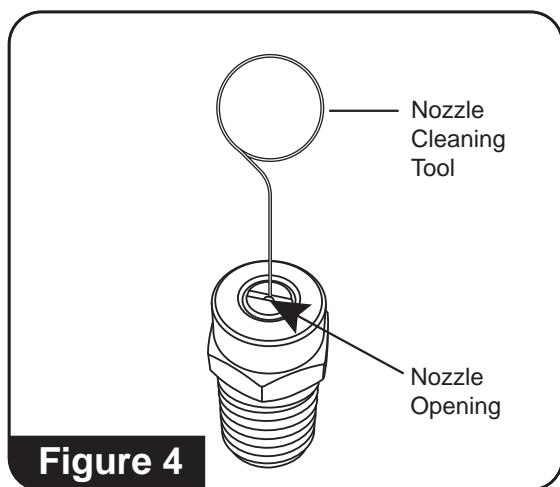

Figure 4
4. Using the nozzle cleaning tool, free any foreign material clogging or restricting nozzle openings. **(See Figure 4)**